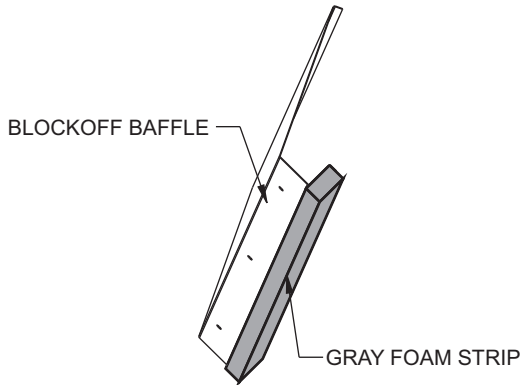

Fig. 28 — Adding Foam Strip to Block-Off Baffle
7. Attach gray foam strip (provided) to block-off baffle on outer face of flange. See Fig. 28.